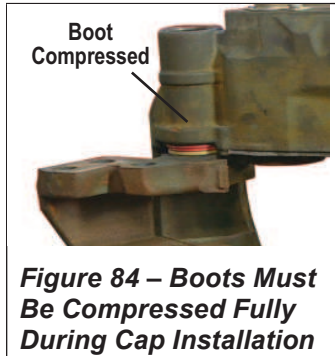

Figure 84 – Boots Must Be Compressed Fully During Cap Installation
- 5.6.38 See Figure 84. Place the caliper/carrier assembly on a bench so that the inner boots are fully compressed, check that the bores are clean and dry (e.g. free from lubrication).